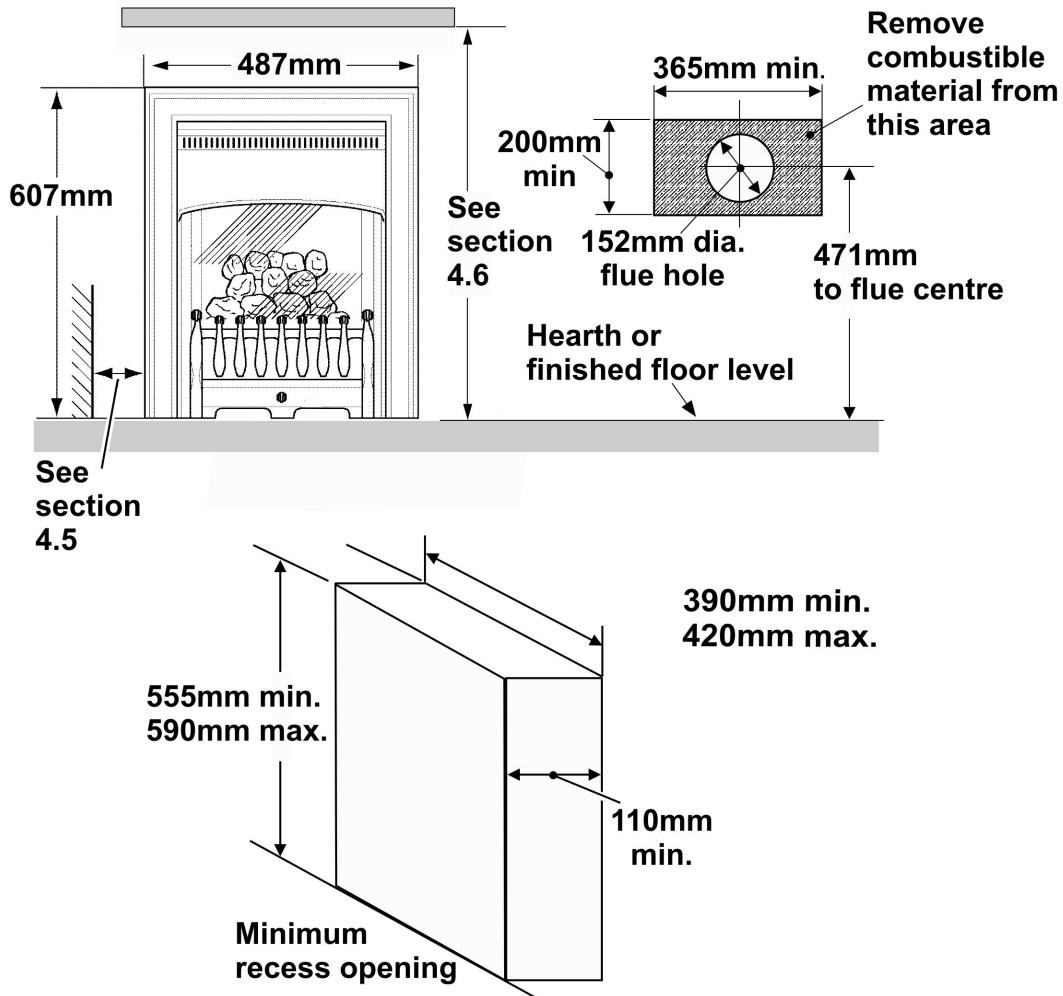

Figure 1. Appliance and recess dimensions (Appliance dimensions are subject to manufacturing deviation).
c) Recessed into a builder's opening or cavity of a non-combustible wall. The minimum cavity size is shown in figure 1. A lintel may be required above the recess opening. If in doubt seek expert building advice. Lintel construction details are given in section 7 of this guide. **This appliance must not be recessed into a combustible wall**
4.10 A hole 152mm (6in) dia. is required through the wall for the flue unit. The height of the hole centre is shown in figure 1 and on the wall-fixing template supplied with the appliance.